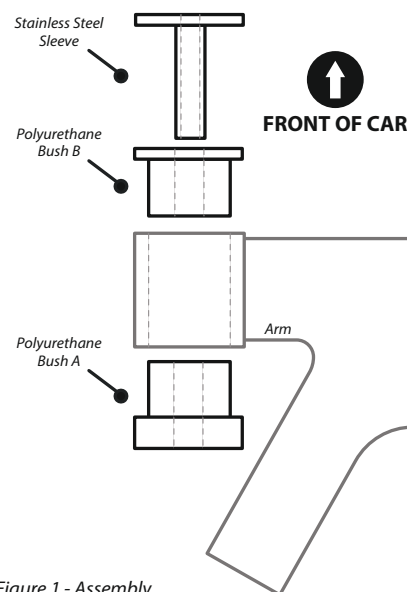

Figure 1 - Assembly
4. Apply some of the supplied grease to the bore and end faces of the bush and insert the Stainless Steel Sleeve into the bore of the Polyurethane bushes, ensuring the knurled face of the Stainless Steel Sleeve is facing the front of the car. Please refer to Figure 1 for orientation.